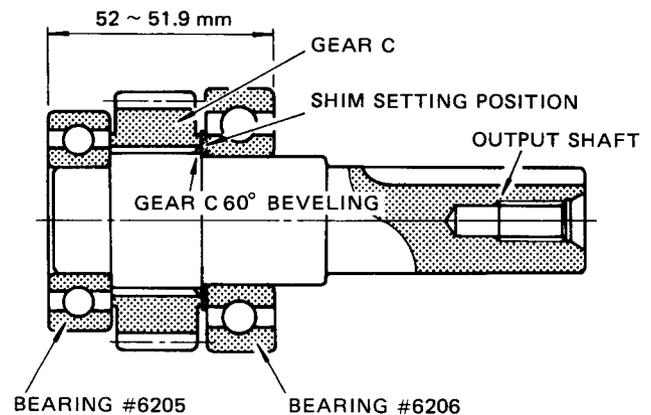

Fig. 12-5
- b) Pressure-fit the bearings and install the gear C into the output shaft so that the bearing (#6206) is set in the output side, the bearing (#6205) in the edge face side, and the 60° beveling of the gear C bore spline is faced to the bearing (#6206). Then, insert the shim between the bearing (#6205) and the gear so that the clearances between bearings after they have been pressure-fitted is from 52 mm to 51.9 mm. Two types of shim; 0.3 mm thick and 0.1 mm thick are available. (See Fig. 12-5.)